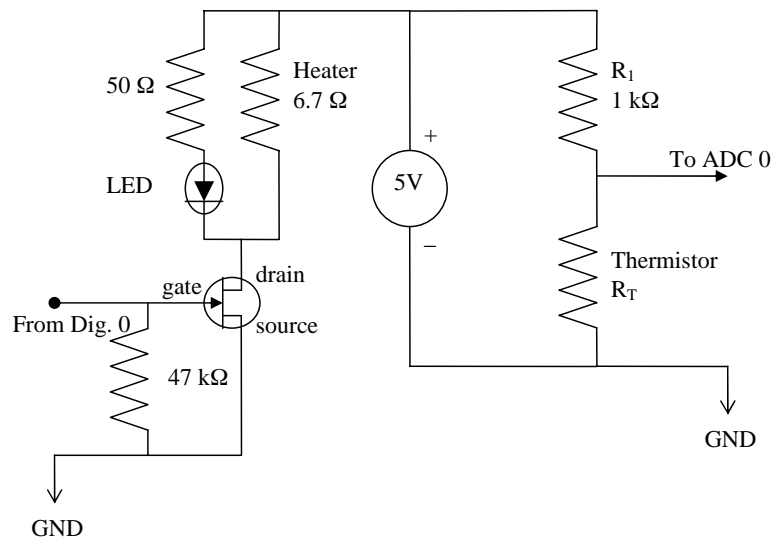

Figure 3.3: HEXFET temperature controller
1. Set up the circuit as shown in Fig. 3.3. It will act like the push button switch you used earlier but will be controlled by the computer. When a HI signal is applied to the gate of a HEXFET, the device conducts current like a closed switch; when a LO signal is applied, the device acts like an open switch, i.e., it has infinite resistance. Make a sketch of the circuit in your lab book.
NOTE: you may need to use two separate power supplies, instead of a single one, as shown in Fig. 3.3. This is because: if the HEXFET is drawing a lot of current, you may inadvertently load down the power supply, causing its voltage to drop. This, in turn, will change your thermistor reading.